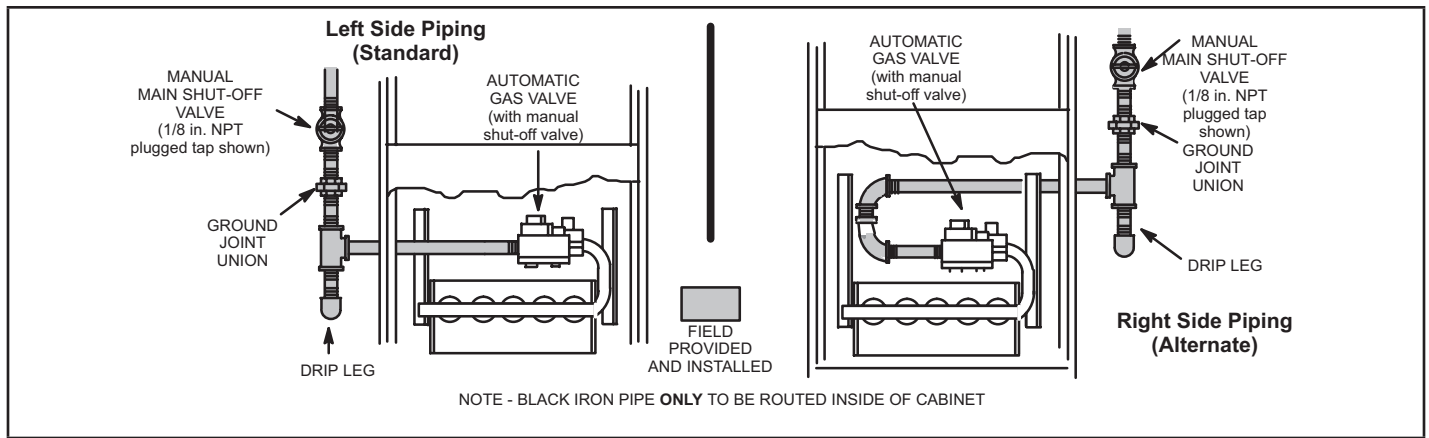

FIGURE 55
- 1 - Gas piping may be routed into the unit through either the left- or right-hand side. Supply piping enters into the gas valve from the side of the valve as shown in FIGURE 55. The maximum torque is 800 in lbs and minimum torque is 350 in lbs when attaching the gas piping to the gas valve.
- 3 - Gas piping must not run in or through air ducts, clothes chutes, chimneys or gas vents, dumb waiters or elevator shafts. Center gas line through piping hole. Gas line should not touch side of unit. See FIGURE 55 .